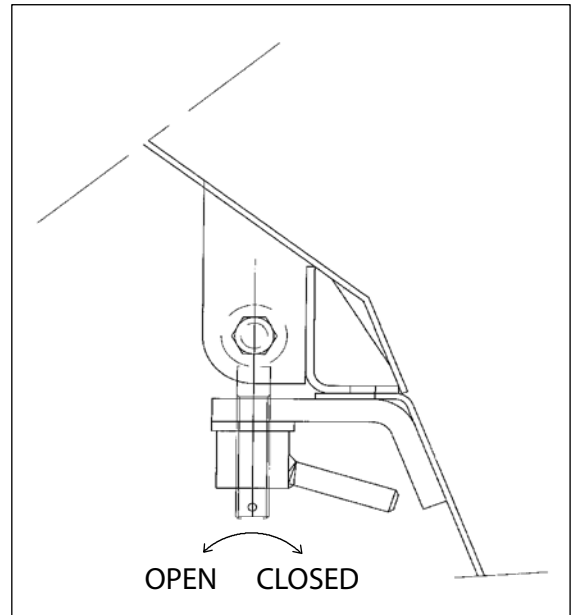

Fig. 7. Locking the feed chute in the operating position
4. Lock the chute in the operating position. Fig. 7.